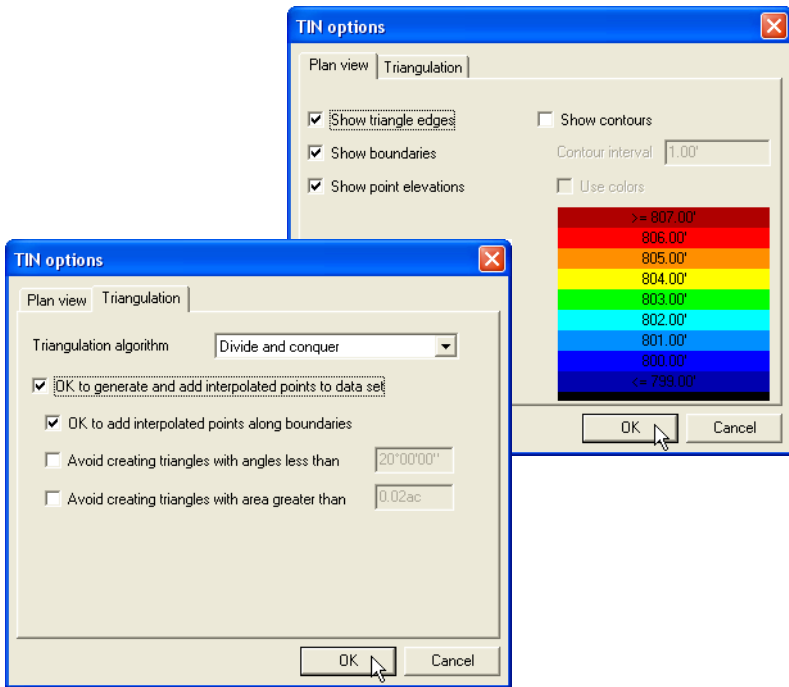

Figure 5-22. Set Plan View and Triangulation Options
2. On the *Plan view* tab, select the desired parameters (Figure 5-22 on page 5-24).
3. Click the *Triangulation* tab and select the desired parameters (Figure 5-22 on page 5-24).